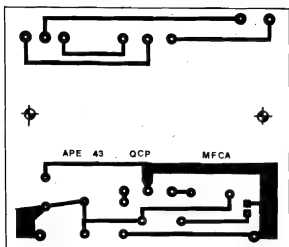

Fig. 3
- FIG. 3 - LAY OUT DO IMPRESSO DO MÓDULO FONTE PARA C.A. (MFCA).